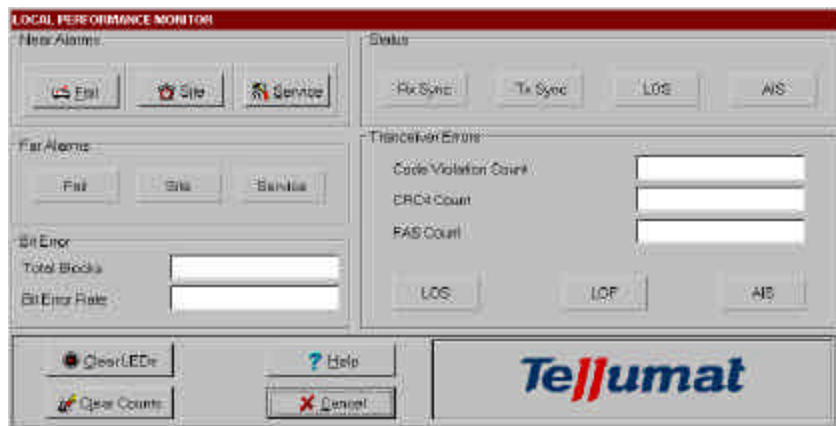

Figure 16. Indoor Unit: Typical Status Screen.
**Indoor Unit: Status** This screen (see Figure 16) allows you to monitor the network’s performance. It provides the following data: